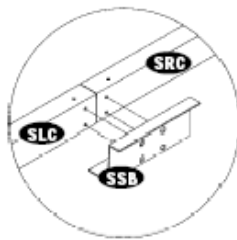

Fig.1
11. Place the sliding channel support (SSB) on the sliding channel (SLC) & (SRC). See fig.1. Align the holes with sliding channels and secure with (S1) screws. See fig. 2.